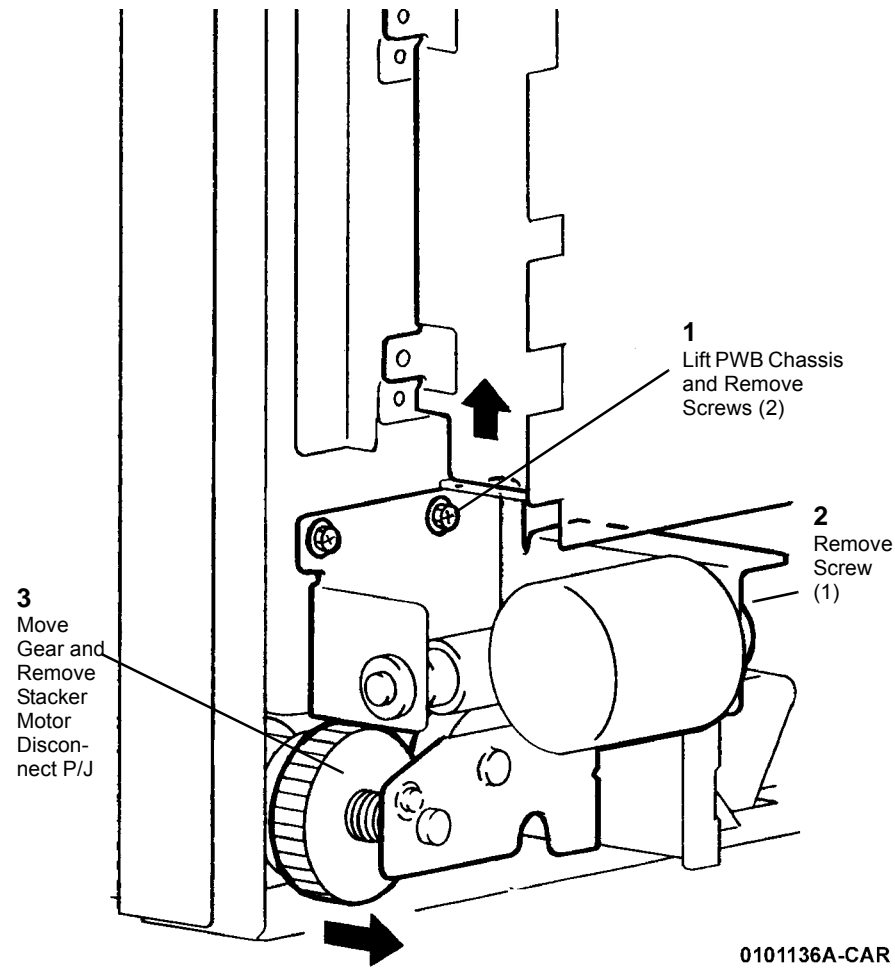

Figure 3 Removing Stacker Motor Assembly
4. Remove the Stacker Motor Assembly (Figure 3).
- a. Remove the screws (3) while sliding the PWB Chassis upward.